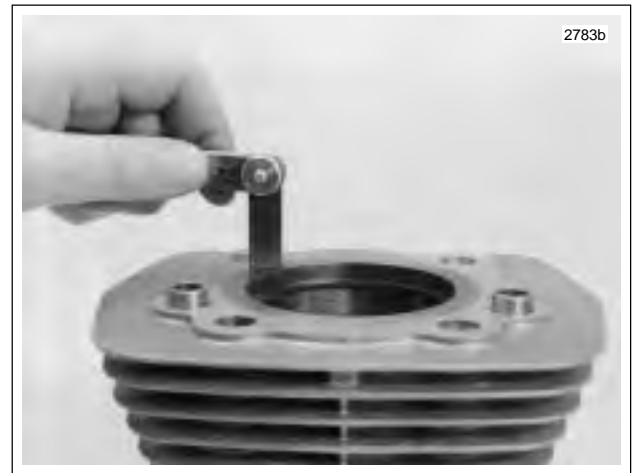

Figure 3-98. Measuring Ring End Gap
1. See Figure 3-98. Insert the **new** ring into the cylinder, square it in the bore using the top of the piston and measure the ring end gap with a feeler gauge. Do not use the ring if the end gap does not fall within the following specifications, See Table 3-24.